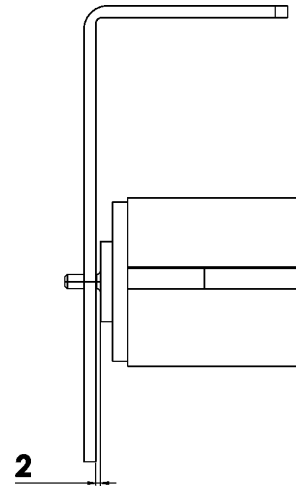

Figure 3: Drive Plate Minimum Clearance from spool
6. **Make sure spool has at least 2 mm of clearance on the drive end between the end bush and drive plate. The idler end can sit against the idler plate. (FIGURE 3)**